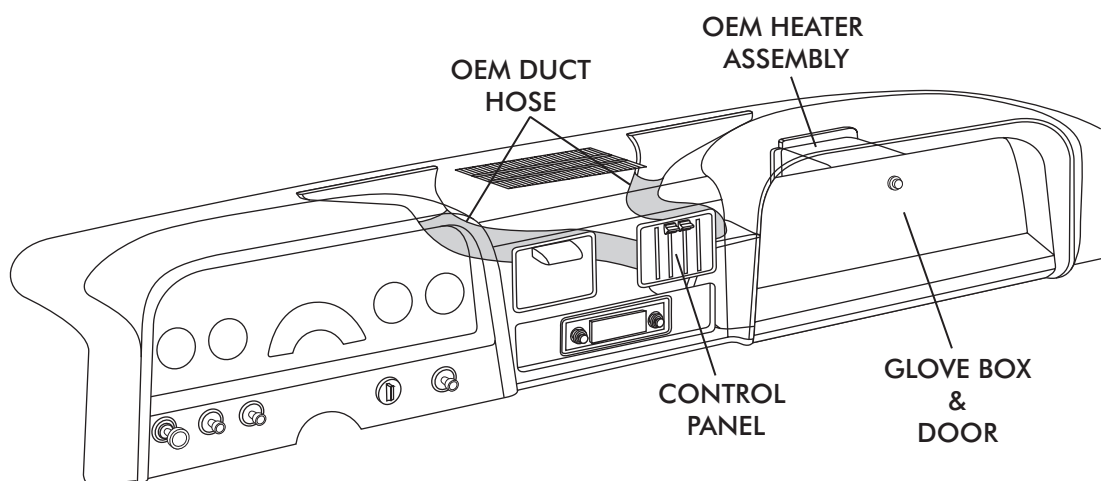

FIGURE 2
- ☐ REMOVE OEM DUCT HOSE FROM DEFROST DUCTS (SEE FIGURE 2 BELOW).